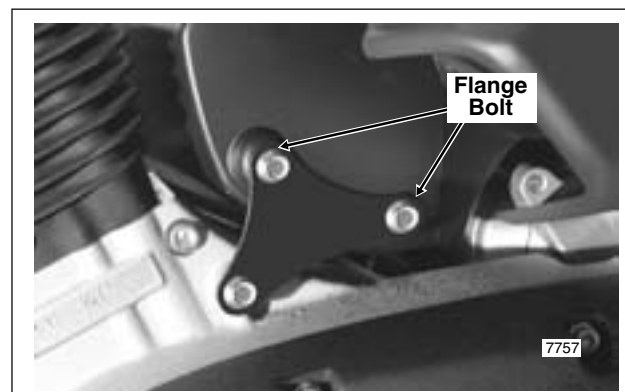

Figure 1-36. Remove Air Box From Bracket
- Moving to left side of vehicle, remove two flange bolts to release side of air box from triangular shaped bracket. Do not remove bottom bolt to crankcase. See Figure 1-36.